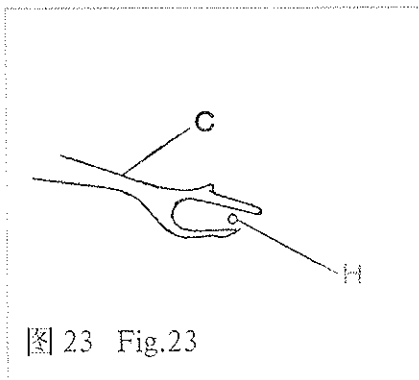

图 23 Fig.23
② 作上述调整后, 必须检查钩线叉在左端(图 23)时, 机针“H”的针尖应在钩线叉“C”的叉口中间或机针稍低于中间位置通过。如有相撞, 必须作相应调整, 达到左右兼顾。
② When the thread hook locates at the left end (Fig.23) after completing the said adjustment, the needle point "H" shall be in the middle of the prong of the thread hook "C". The needle can also pass the thread hook at a location lower a bit than the middle. Microadjustment can be made if the needle point comes into contact with the thread hook.